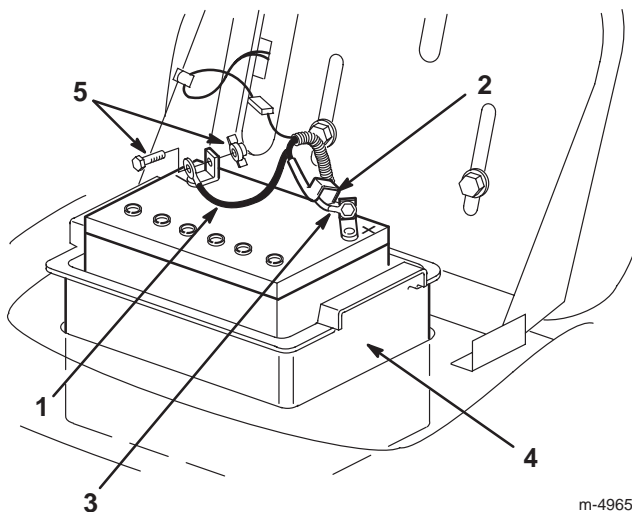

Figure 25
6. Disconnect the negative (black) ground cable from the battery post (Fig. 25).
7. Slide the rubber cover up the positive (red) cable. Disconnect the positive (red) cable from the battery post (Fig. 25).
8. Remove the battery box and battery from the chassis (Fig. 25).
1. Put the battery into the battery box and install it into the chassis (Fig. 25).
2. Using the bolt and wing nut, connect the positive (red) cable to the positive (+) battery post (Fig. 25). Slide the rubber cover over the battery post.
3. Using the bolt and wing nut, connect the negative (black) cable to the negative (–) battery post (Fig. 25).